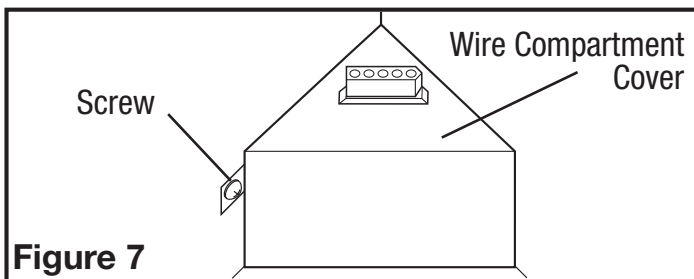

**Figure 5**
- 1a. External Wire Compartment: Remove the wire compartment cover screw and place cover in a secure place (**Figure 5**).